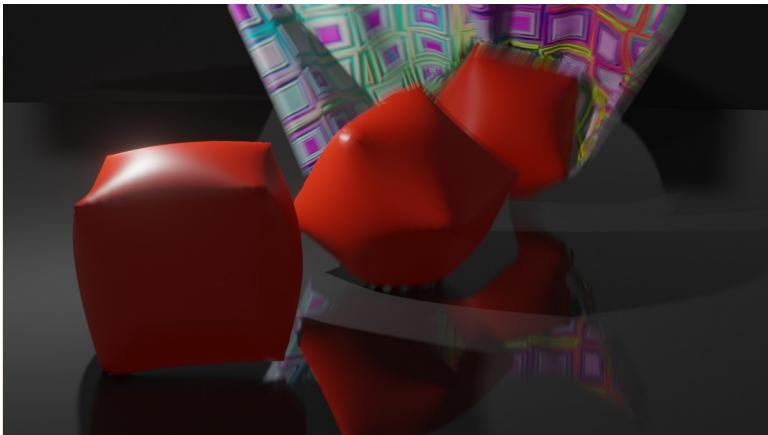

Figure 11-3 Cloth Simulation with Inflated Cubes and a Curtain
6. When you run the animation you should see the curtain drape and then deform realistically as it is hit by the cubes. As with the fluid simulations there are many setting to adjust and create anything from a rubber blanket to silken gauze. Mix up some materials as well to create an interesting scene as in Figure 11-3. Note that this render was done using the eevee engine with ambient occlusion, bloom, screen space reflections and motion blur all turned on. Also I added a solidify modifier to the curtain, after the cloth modifier. Sometimes the Blender physics simulation system may struggle with multiple different collision objects and not produce the expected distortions on the cloth. For the example shown in Figure 11-3 I had to make sure that a cube with a collision modifier hit the curtain and that the curtain did *not* have a collision modifier.